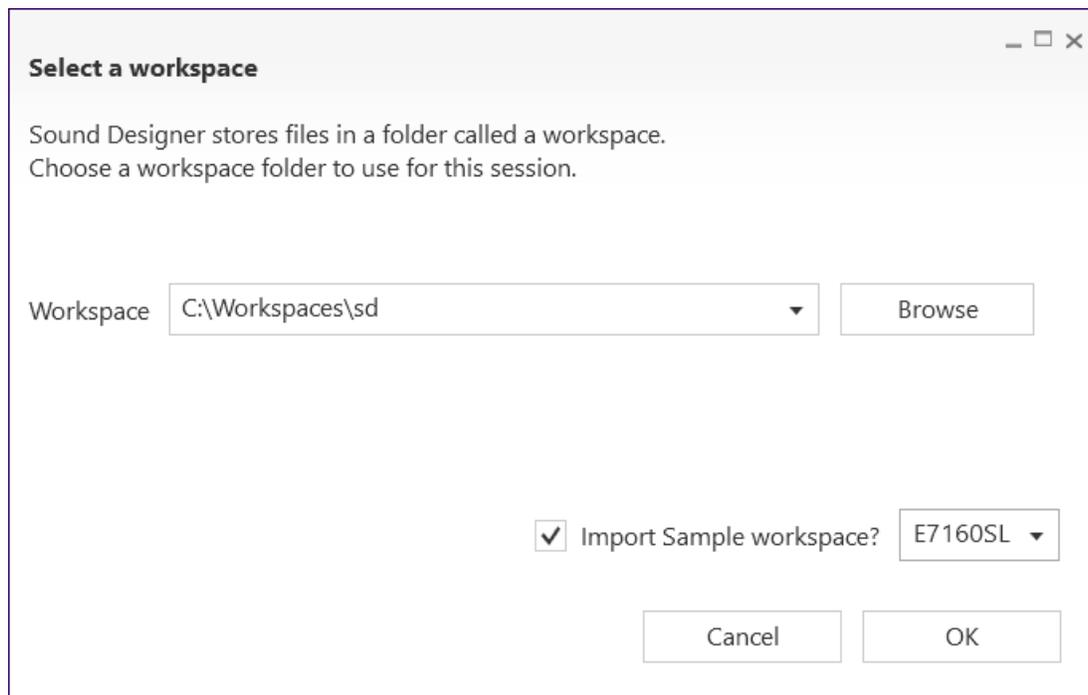

Figure 6. Selecting a Workspace
3. When the **Select a Workspace** dialog box appears, you need to choose a workspace to for Sound Designer Software. For new installations, we highly recommend selecting an empty directory for the workspace. Errors might occur if opening a workspace created using an earlier version of the Sound Designer Software Application. To create a workspace, click **Browse** and the software allows you to create one. If you click **Browse** and select a pre-existing directory for your workspace, make sure it is empty. To begin working with the Ezairo 7160 SL, check **Import Sample Workspace**, and select **E7160SL** from the drop-down list. Click **OK**. (See the figure "Selecting a Workspace" (Figure 6).)